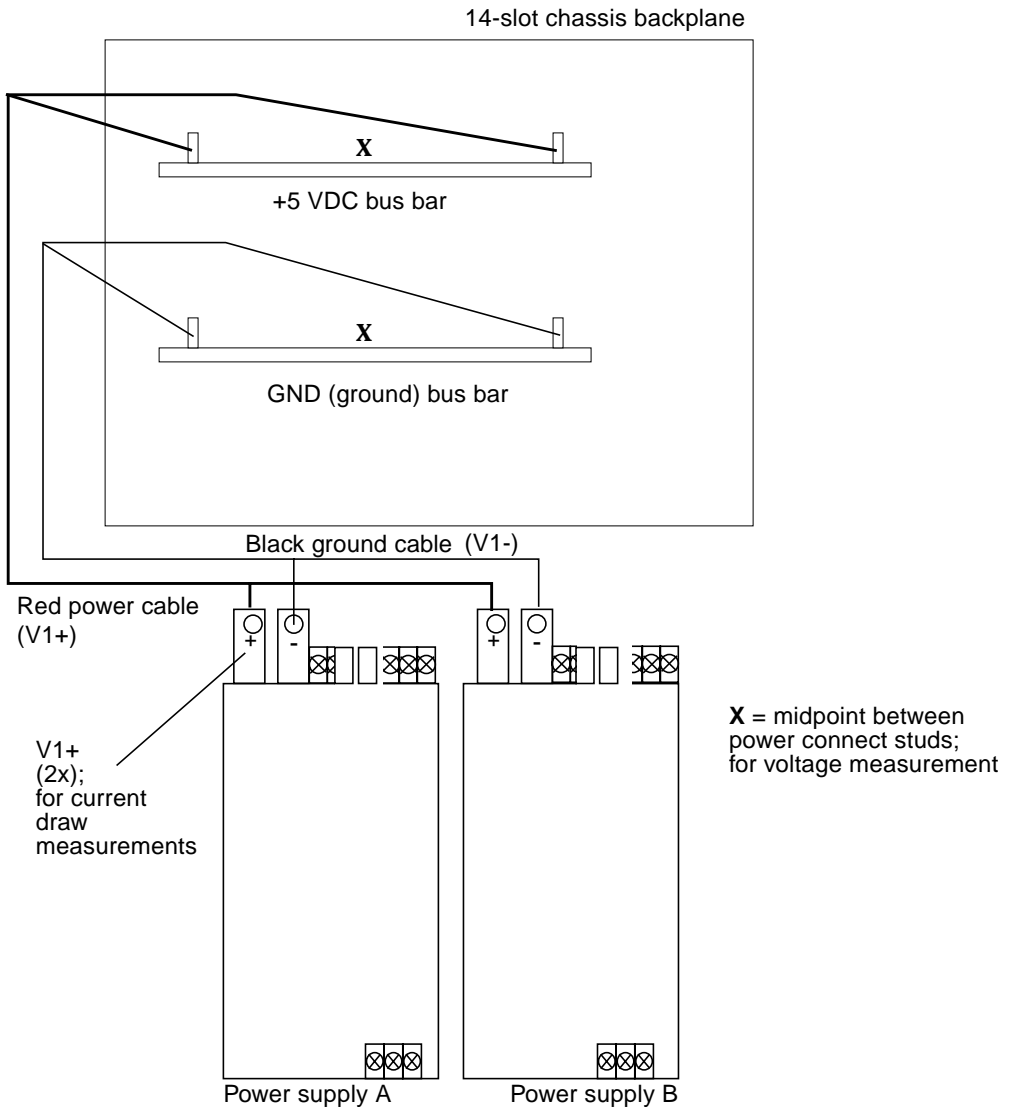

FIGURE 6-17 Subsystem Power Supply Measurement Points
- 6. Measure the DC voltage across the +5 VDC and GND backplane bus bars shown in FIGURE 6-17 and record this voltage.**
4. **Connect the DVM leads at the midpoint between power connect studs for the +5 VDC and GND (ground) buses on the backplane. See FIGURE 6-17.**